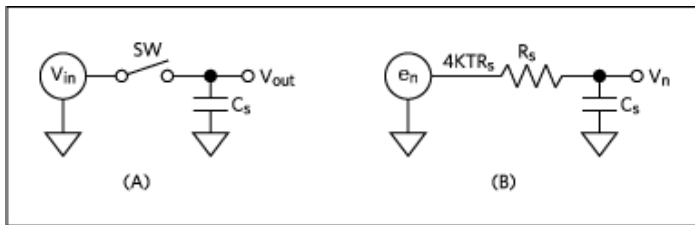

Figure 10. A simplified sample-and-hold circuit (A) and noise-equivalent circuit (B).
Figure 10(A) shows a simplified sample-and-hold circuit found at the input of ADCs. When the switch is closed the input voltage source (V_{in}) charges the sampling capacitor (C_s) to voltage at V_{in} . **Figure 10(B)** shows the noise-equivalent circuit. In this latter configuration, the switch is replaced by R_s which is the combined on-resistance of the switch and output impedance of the voltage source; V_{in} is replaced by the noise spectral density (e_n); and V_{out} is replaced by the output noise voltage (V_n). When the switch is closed, C_s is charged to the input voltage (V_{in}) plus the noise voltage (V_n).